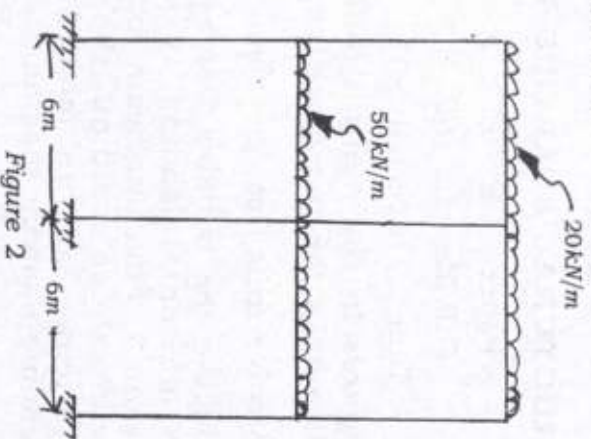

Figure 2
- (b) Analyse the building frame using approximate method as shown in Figure 2. 10